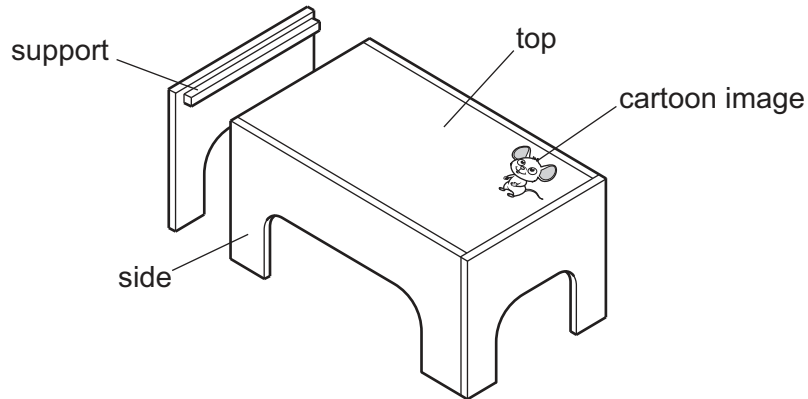

Fig. 1.1
- 1 Fig. 1.1 shows an exploded view of a child's table.